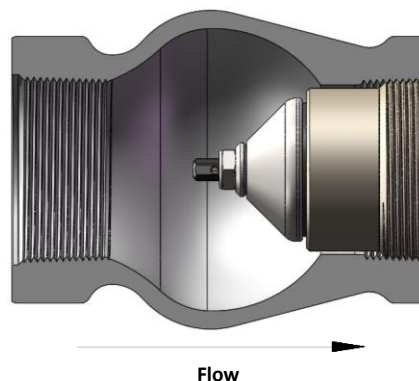

Figure 2: Threaded bell housing installed
- Apply Loctite #565 or equivalent NPT thread sealant to threads of bell housing; install bell housing onto internal valve as shown in Figure 2.